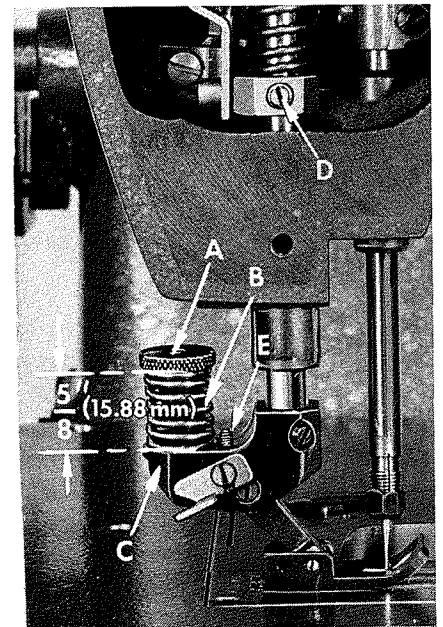

Fig. 17
As a preliminary setting, adjust spring regulator nut (A, Fig. 17) on the feeding presser foot so the distance from the top of the spring (B) to the yoke (C) is $\frac{5}{8}$ inch (15.88mm), (See Fig. 17). Assemble feeding presser foot to presser bar. With presser foot resting on throat plate and feed dog down, press down on spring regulator nut (A, Fig. 17) until the marks on presser foot bottom line up with the centerline of the needle, while keeping the needle in the center of needle slot, tighten set screw (D) securing presser bar guide to the presser bar, making sure that the stop screw in presser bar guide is resting on the bed casting.
When the presser foot is lifted off the bare throat plate, the foot should move back only slightly, less than $\frac{1}{64}$ inch (.40mm). The stop screw (E, Fig. 17) on the yoke, which is set at the factory, can be readjusted if necessary, should this dimension become changed.